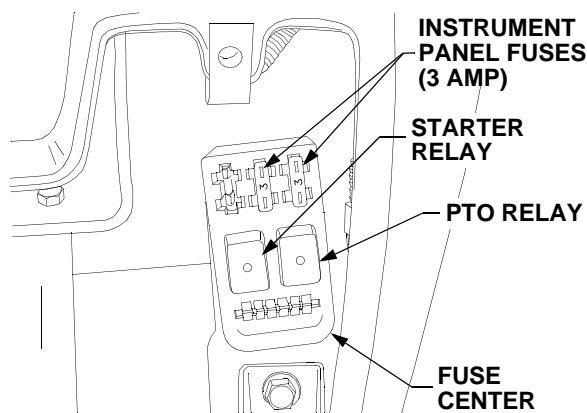

Figure 38
- Pull the fuses from the fuse center and check their condition. Replace a blown fuse with the same capacity fuse (3 Amp). See Figure 38.
The PTO relay and starter relay, located in the fuse center, maintain power to each of those circuits. If one of the circuits is not functioning properly, have your dealer electrically check the relay. See Figure 38.